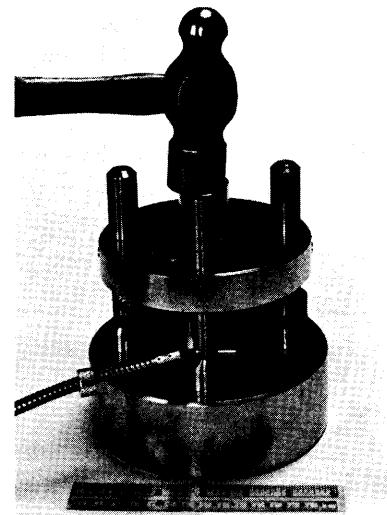

Figure 6e
h. Push Spline over swaged end of shafting as far as it will go. Center hub of spline (with shafting inserted) in "Crimp Spline" position on tool and crimp spline to shafting using a fairly sharp hammer blow. Figure 6e. Again, strike tool only hard enough to drive the two halves of tool together or repeat hammer blow to accomplish this result. Make certain that flats crimped on shafting are parallel to flats on the tool.